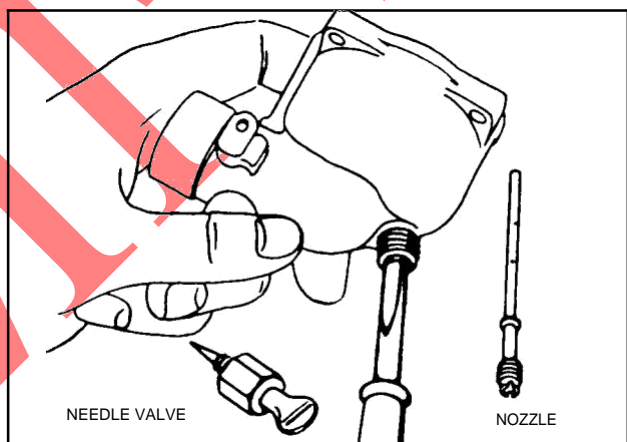

Fig. 272 - REMOVING NOZZLE
3. Remove nozzle with Tool #19280, Carburetor Screwdriver, Fig. 272. Use of Tool #19280 will help to prevent damage to threads in lower carburetor body.